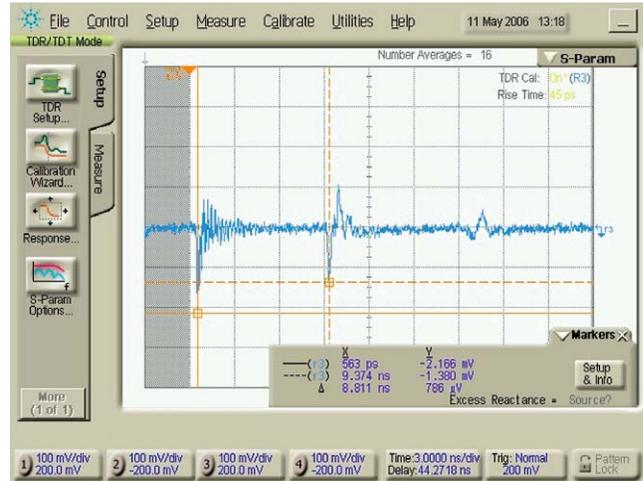

Figure 7. NEXT Time Domain
- Display the differential TDT response and adjust the time/div to display 4-6X the cable length on the screen (see Figure 7 and note markers at start and 2X).